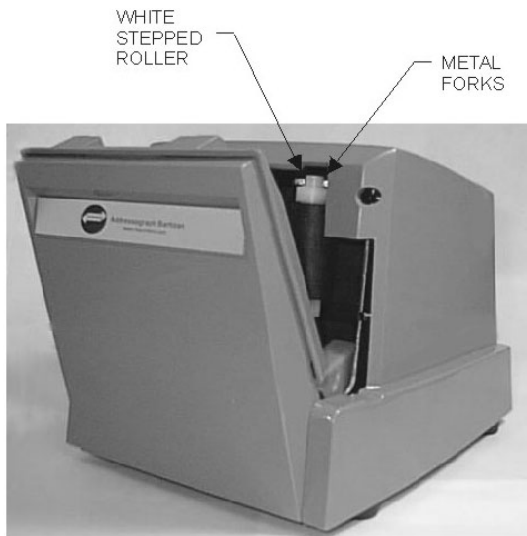

FIGURE 2
6. Guide the entire inked roller assembly back into place making sure the white stepped roller is positioned in between the metal forks. (Figure 2)